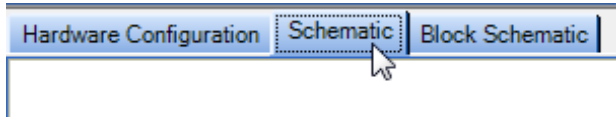

Figure 19. Schematic Tab
1. Click the **Schematic** tab near the top of the window (see Figure 19).